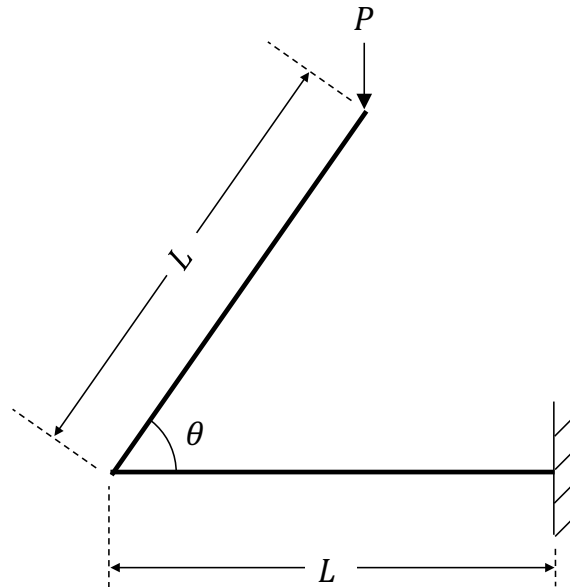

Figure Q6
6. The bent uniform bar, shown in Figure Q6, has a circular cross-section of 40mm diameter and is subjected to a vertical load,  $P$ , of 16kN at one end and clamped at the other end.